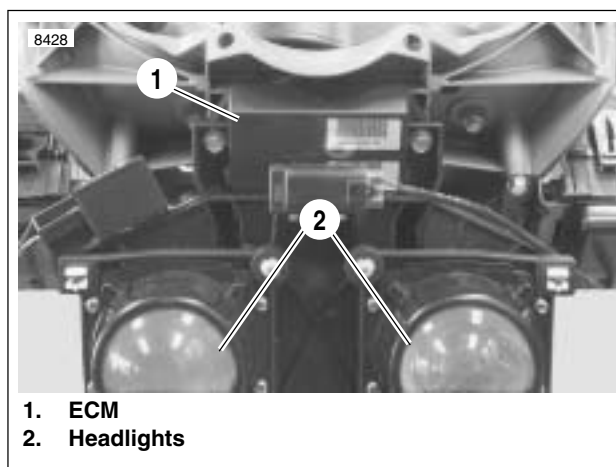

Figure 4-14. Electronic Control Module
2. See Figure 4-14. Inspect connector [10] (black) for contamination or corrosion. If connection is good, replace ECM. See 4.16 ELECTRONIC CONTROL MODULE.